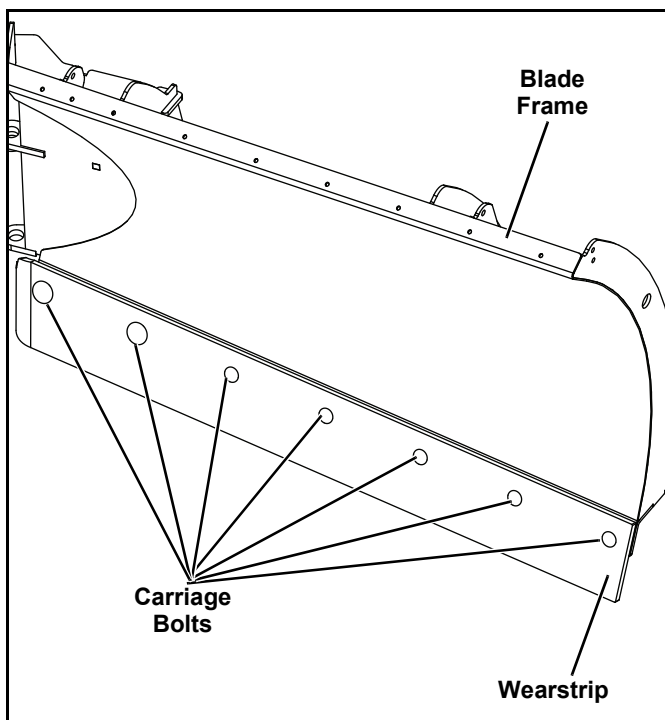

Figure 1
2. Loosen the Locknuts on the Carriage Bolts enough to allow the Stainless Steel Skin to slip behind the wearstrip and the blade frame (See Figure 1).